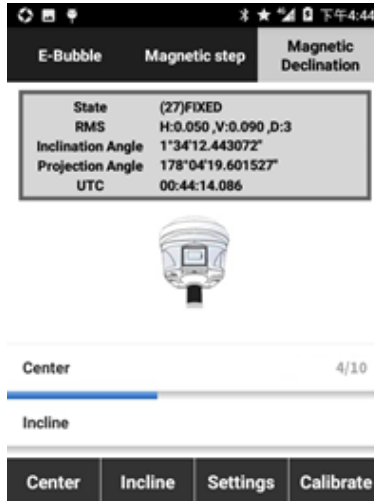

Figure 4.9-12
(1) Record center points: press [Center] to record center points. It needs to record the coordinates of 10 static points. The recording process and result are in Figure 4.9-12 and Figure 4.9-13.